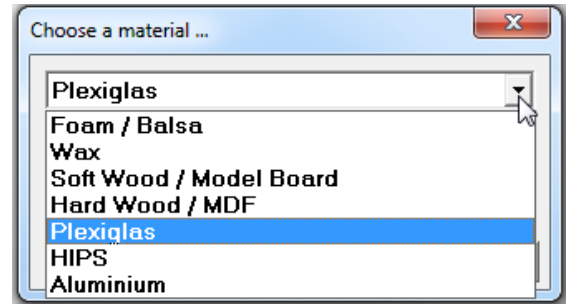

Figure 9
- Choose the required material (Figure 9).